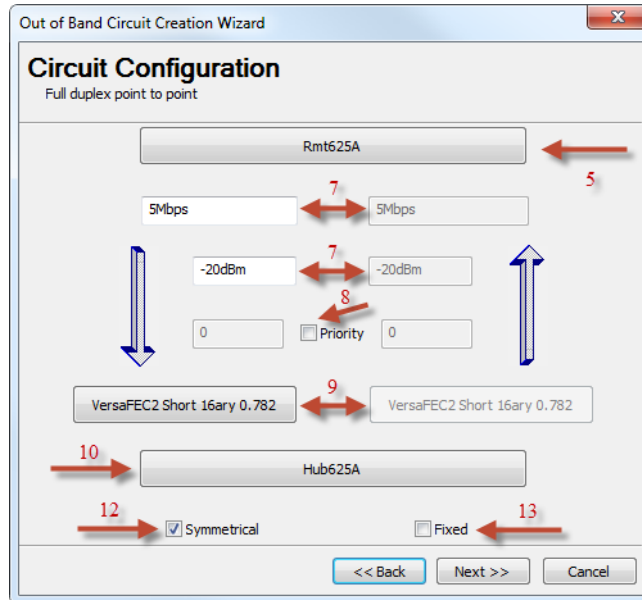

Figure 7-12 Circuit Configuration, Full Duplex P2P
4. Click the **Next** button to display the **Circuit Configuration** dialog (figure 7-12).